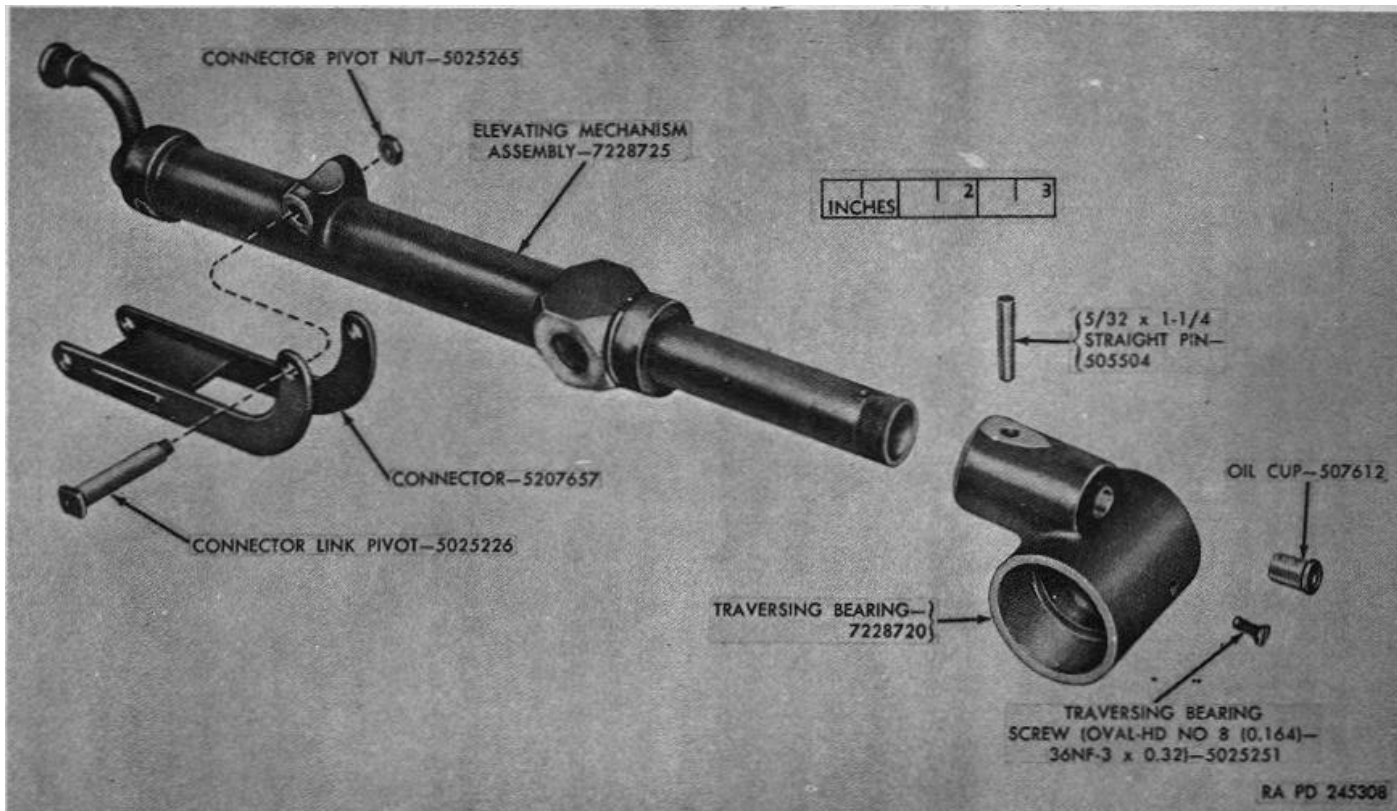

Figure 23. Elevating mechanism group--exploded view.
- (1) Position right leg assembly (K) and left leg assembly (F) onto elevating mechanism group (J) so that holes in leg devices are aligned and install clevis bearings (E).
- (2) Secure each clevis bearing with three clevis bearing screws (D).
- (3) Align holes in connector and left leg assembly and insert connector pivot (G).
- (4) Secure with connector pivot nut (H) and peen threaded end of pivot over nut.
- a. Drive out the straight pin from traversing bearing and unscrew from elevating mechanism assembly (fig. 23).
- b. Remove peen from threaded end of connector link pivot, unscrew connector pivot nut, and remove connector link pivot and connector (fig. 23).
f. Screw traversing bearing onto elevating mechanism assembly (fig. 23) until holes align and drive in 5/32 x 1 1/4 straight pin.
g. Secure connector to elevating mechanism assembly by means of connector pivot and connector pivot nut (fig. 23). Peen threaded end of connector pivot over the pivot nut. Connector should pivot freely.